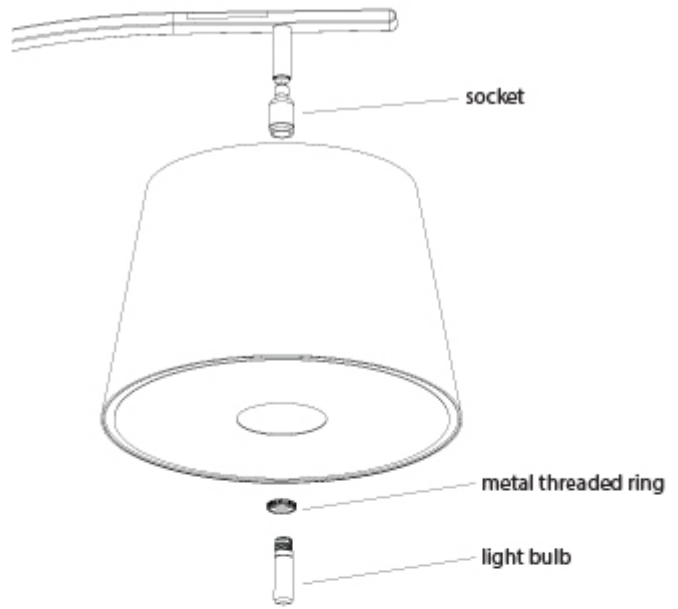

Figure 4
5. With the lamp positioned in its desired location, attach the lamp shade to the hanging socket. To do this, first unscrew the metal threaded ring attached to the socket, then slide the shade frame up onto the socket while a second person screws the threaded ring back into place. Finally, insert the light bulb into the socket and twist into place. (Figure 4)